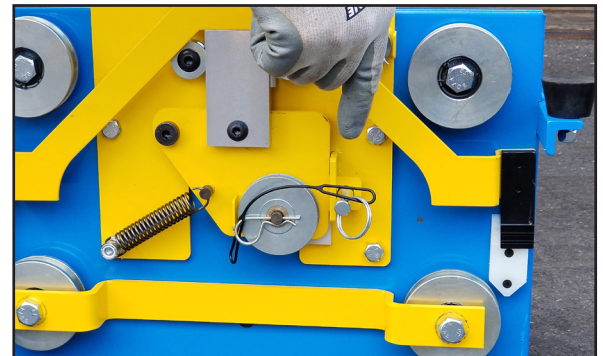

FIGURE 2
4.) Install the brake lockout pin by pulling the cam plate down so the holes on the cam plate match the holes on the backing plate. If you do not install the brake lockout pin, it will be very difficult to install carriage onto track - See Figure 2